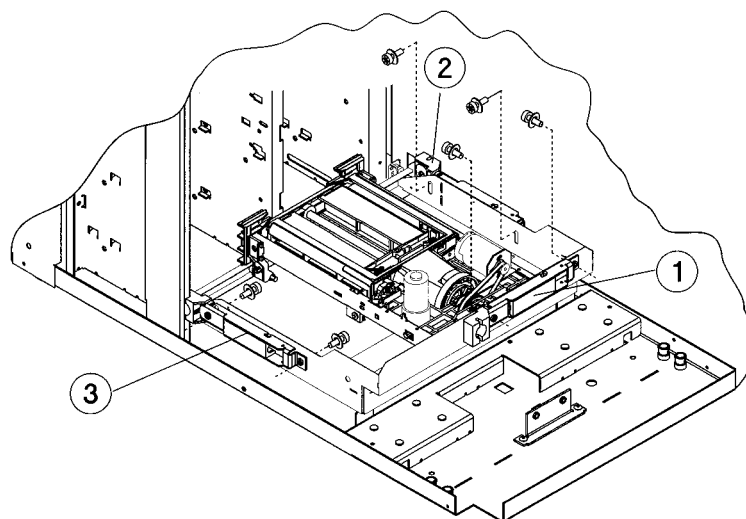

Figure 34: Removing the Tensioners From the Translate Frame
7. Remove the three rope tensioners from the frame (#1, #2, and #3 on Figure 34).
- a. Remove two T-25 long screws per tensioner. Start with the tensioner at the rear end of the frame (#1 on Figure 34).